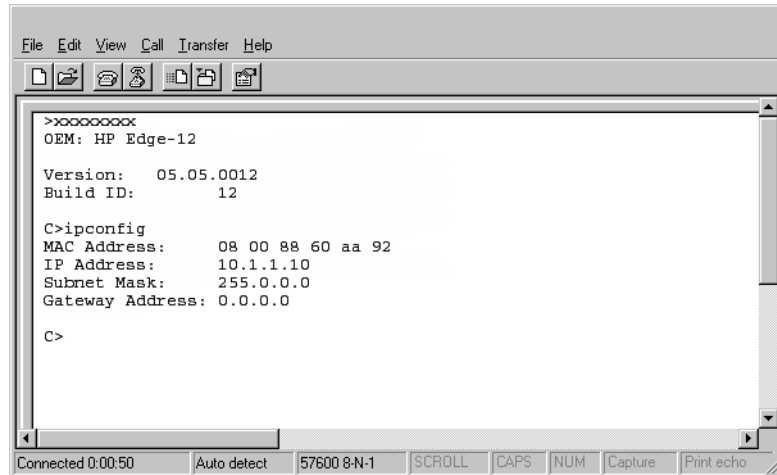

Figure 9: HyperTerminal window
9. At the `C>` prompt, enter `ipconfig`. The HyperTerminal window displays (Figure 9). The configuration information is listed below: